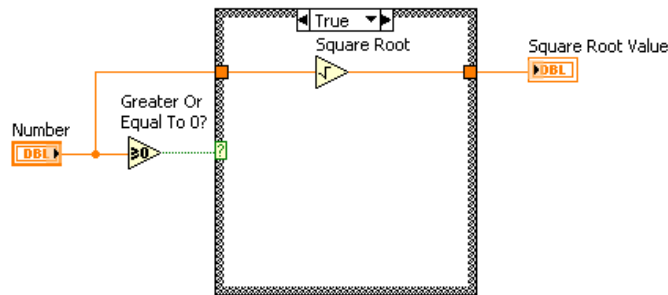

Figure 8.12
2. Select the True case of the Case structure.  Place the Square Root function, located on the Functions»Arithmetic & Comparison»Express Numeric palette, on the block diagram. This function returns the square root of Number. Wire the function as shown in Figure 8.12.